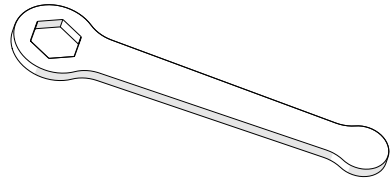
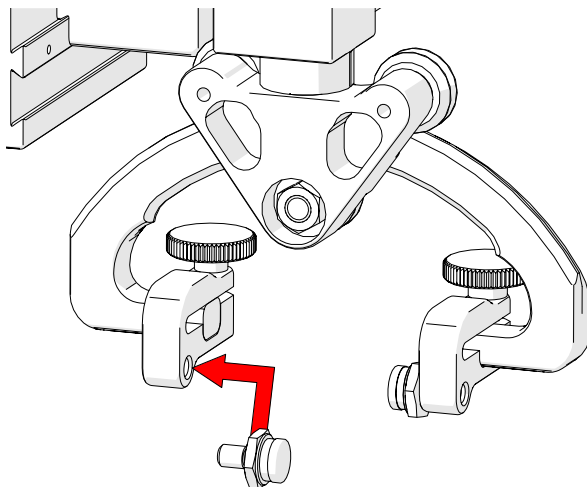

Fig. 32 - 3/8 in wrench
Fig. 47 - Attach pivot buttons
The 3/8 in wrench (*Fig. 32*) is used to remove and install pivot buttons on the probe holders.
1. Using the supplied 3/8 in wrench (Fig. 32), install the appropriate pivot buttons to the probe holder arms (Fig. 47).